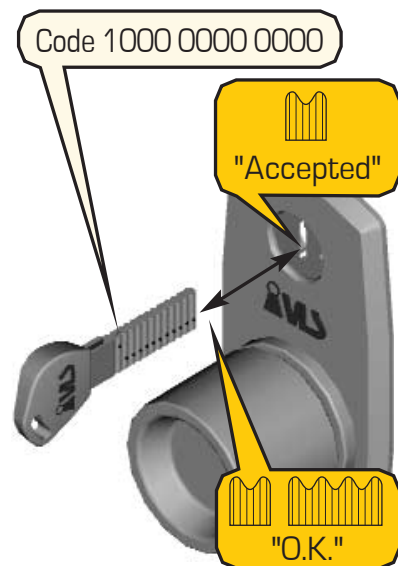

Figure 26 – Programming of working code No. 1
**2.** In order to program the operation code No. 1, set the code 1000 0000 0000 on the key (fig. 26).